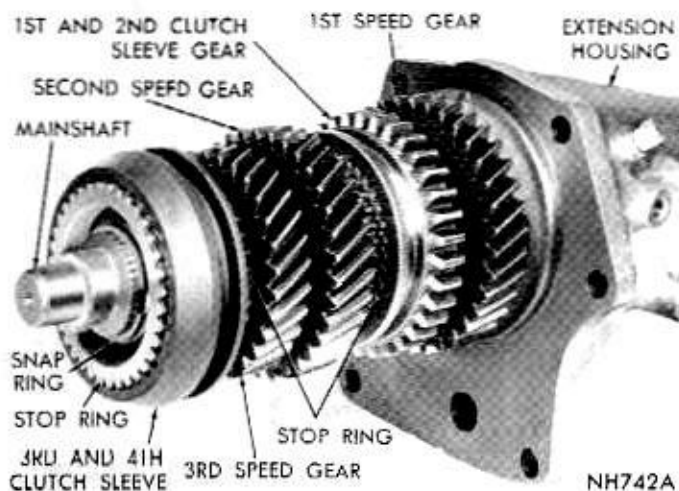

Fig. 18—Mainshaft Gear Identification
(4) Refer to (Fig. 18) for location of various gears, synchronizer sleeves and clutches before disassembling mainshaft.